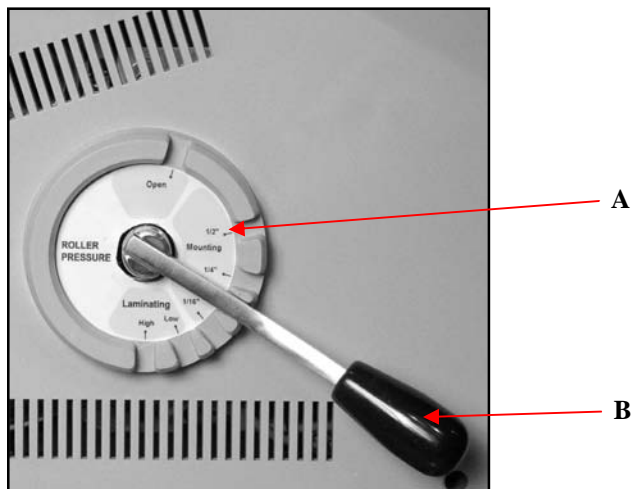

Fig. 5-6. Roller Pressure Handle
A. Settings (Figure 5-6)
B. Roller Pressure Handle (Figure 5-6)